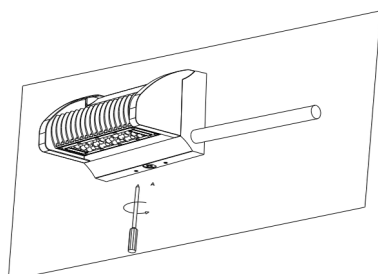

Figure 2-5
5. Tighten the pipe on the luminaire; after installation . tighten the screws. (Figure 2-5)